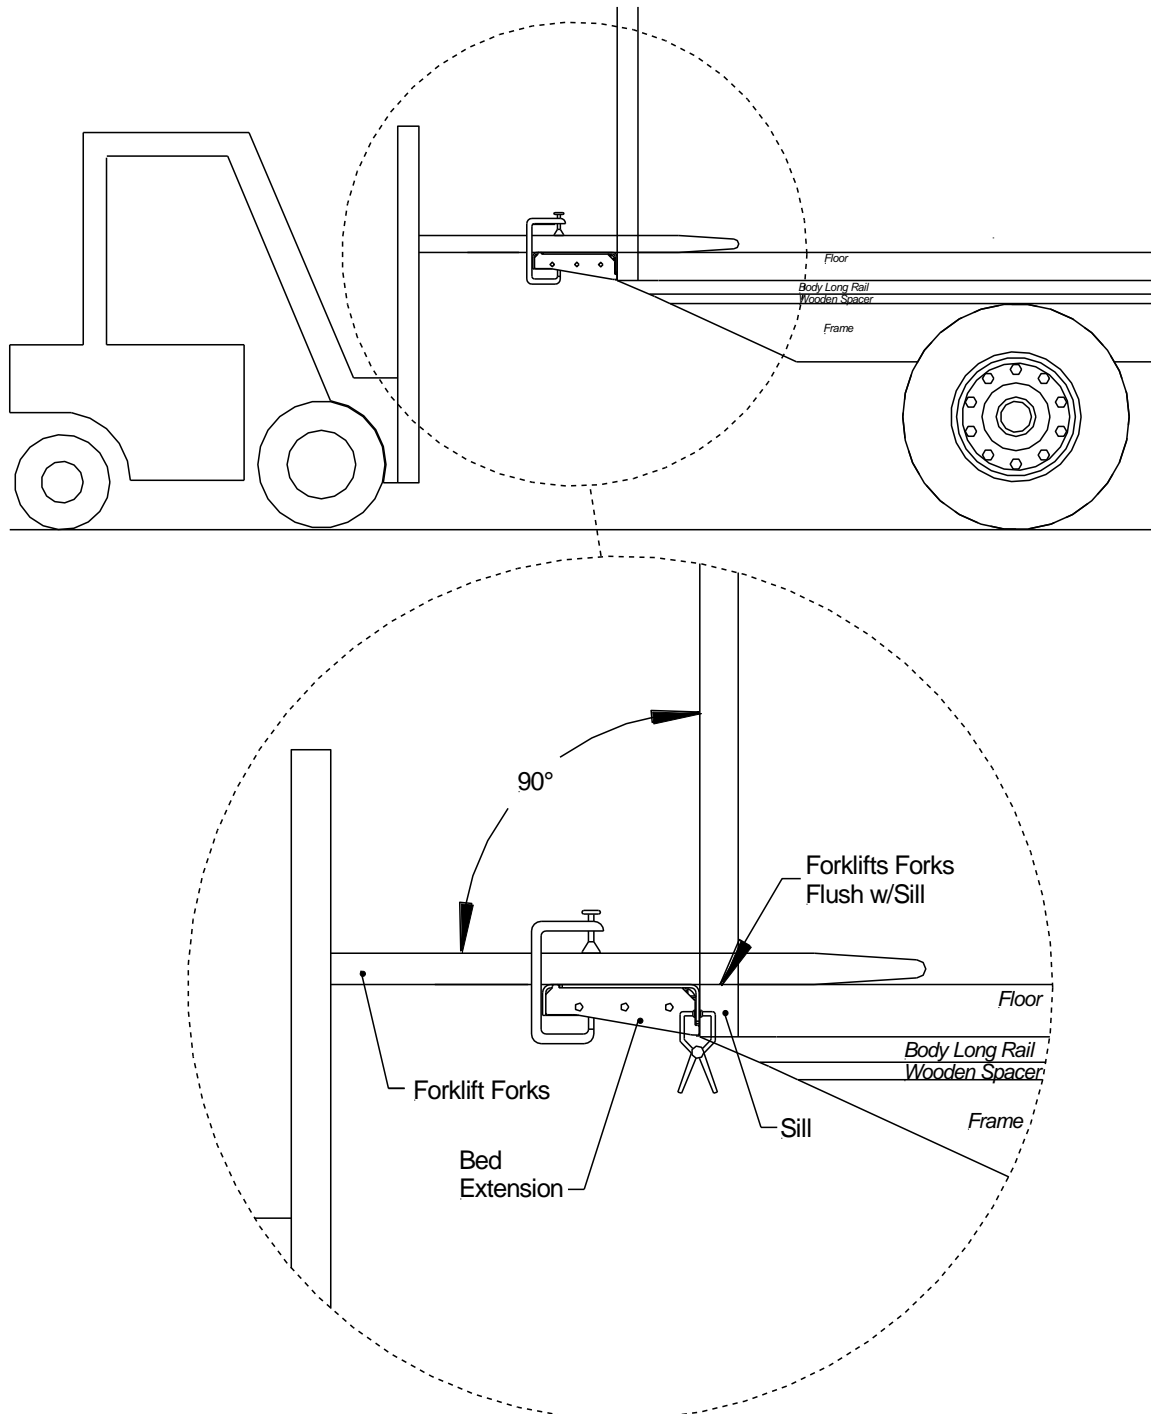

Fig.9
1. Mark the center of the vehicle body and the bed extension. Clamp the bed extension to the forklift forks, **Fig.9**. Maintain the bed extension centered and flush to the sill vertically and horizontally. Check for squareness before continuing.